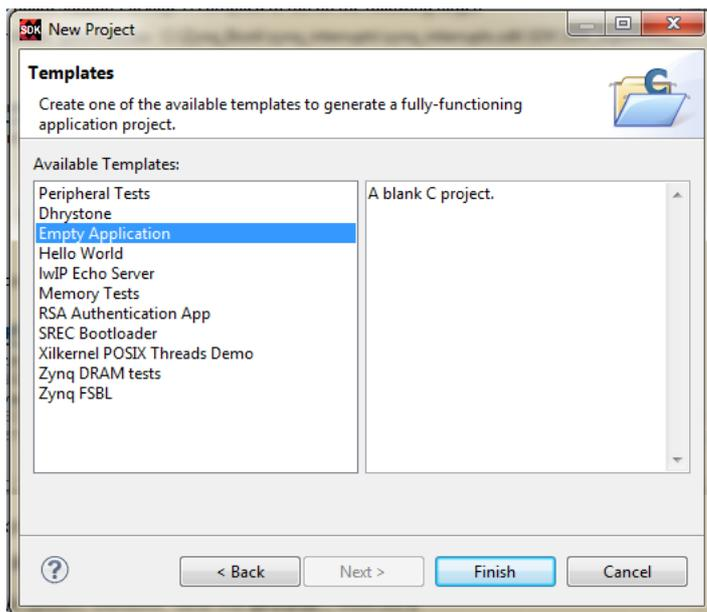

Figure 2.30: New Project Template dialogue
- (c) At the *New Project Templates* screen, select **Empty Application**, as in Figure 2.30, and click **Finish** to create the project.